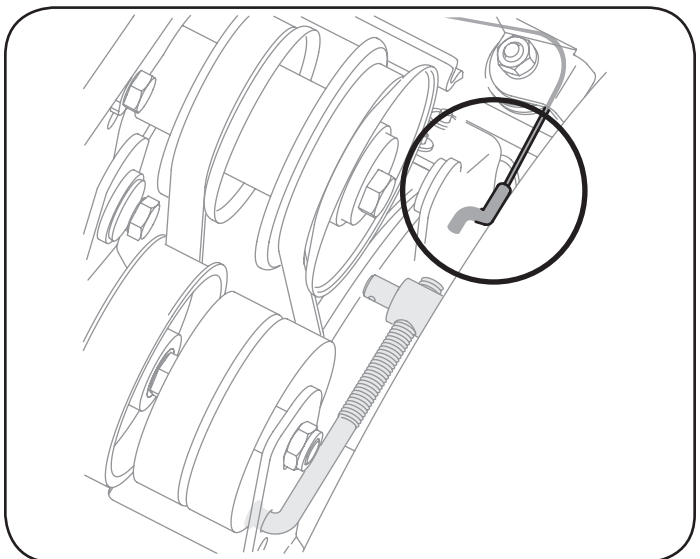

Figure 26
3. Pull the brake bracket assembly towards the cable guide roller and unhook the auger cable "Z" fitting. See Figure 26.